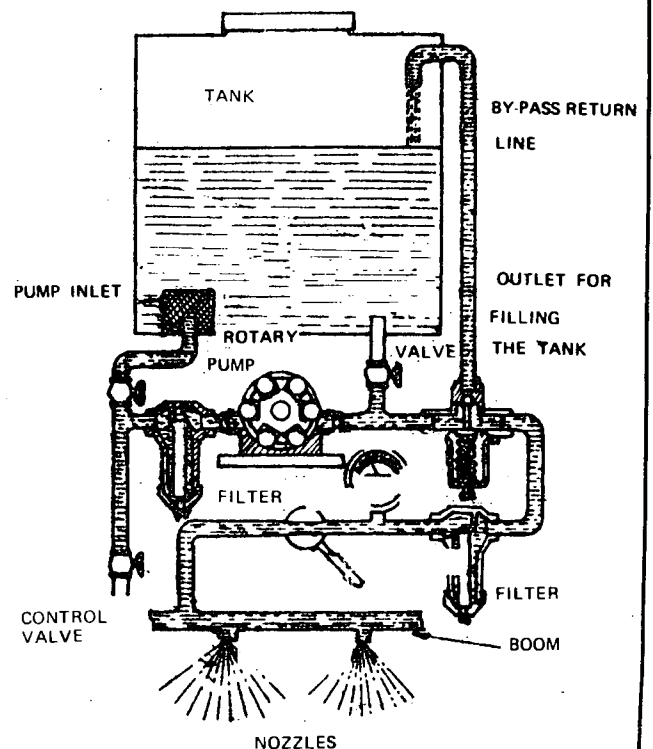

Fig. 10
*LOW VOLUME SPRAYERS (Fig. 10)*